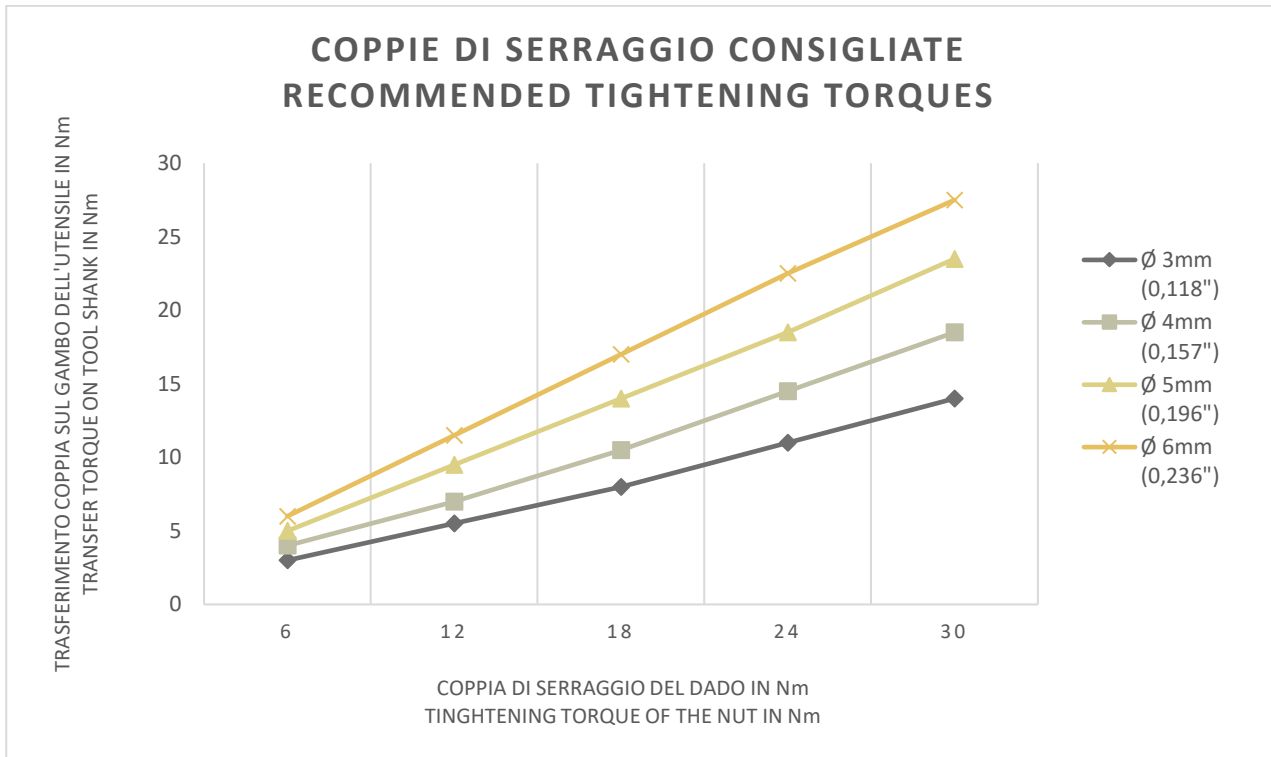

Figure 5-26
- Secure spindle shaft (2) with open-end wrench (6) and tighten the nut (1) with the clamping nut wrench in direction of the arrow → to secure the tool. (See Figure 5-26 for the tightening torque to apply.)